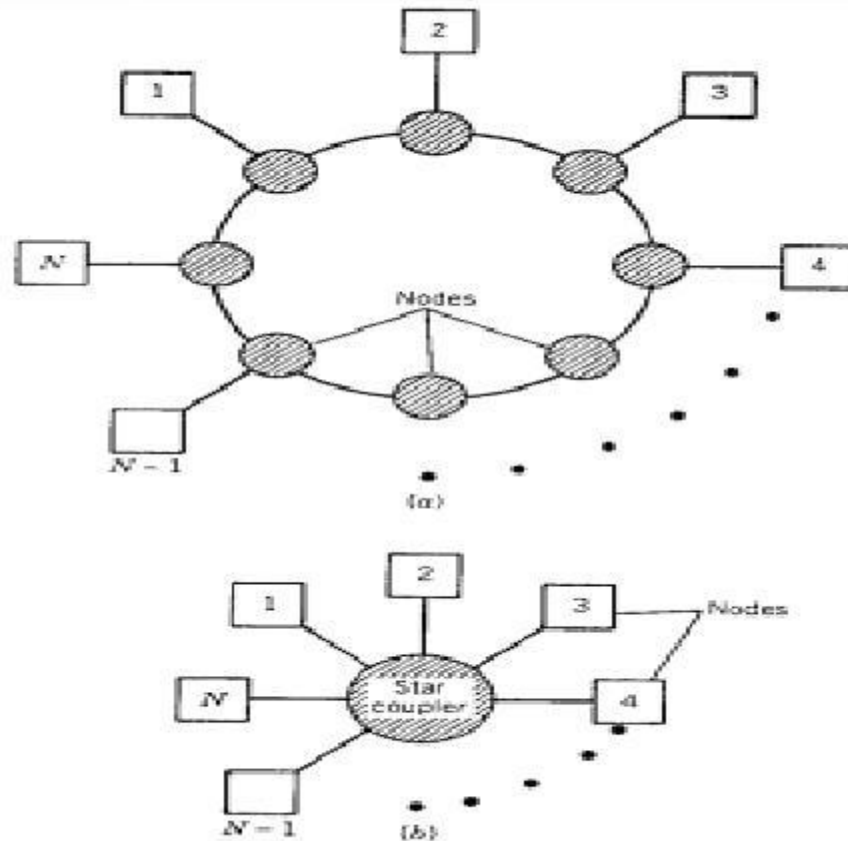

Figure 3.2: (a) Ring topology and (b) star topology for local-area networks
- Figure 3.2 shows the ring and star topologies for LAN applications